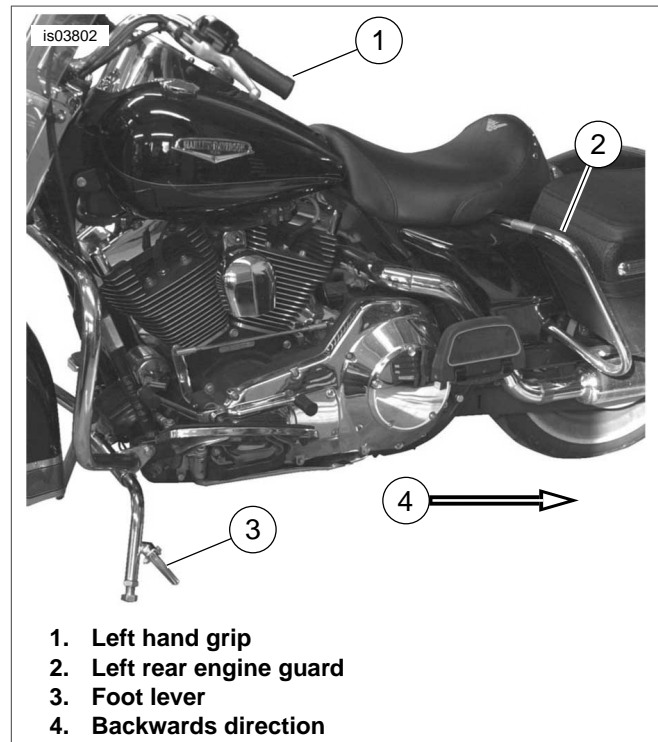

Figure 3. Grab Points for Using Display Stand
2. See Figure 3. Hold the left hand grip (1) with your left hand, and the top of the left-rear engine guard (2) with your right hand.
4. Place your left foot on the display stand foot lever (3) to lower the display stand legs to the ground.